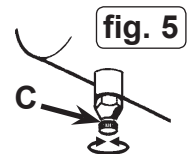

fig. 5
At the end of each working day, drain any moisture from the main tank. Place a container under the drain plug and then carefully unscrew it (fig.5). **DO NOT** allow moisture to accumulate in the tank as this will corrode the inside and affect the pressure rating of the tank.
- Drain condensation by opening the valve (fig.5.C) located under the tank.